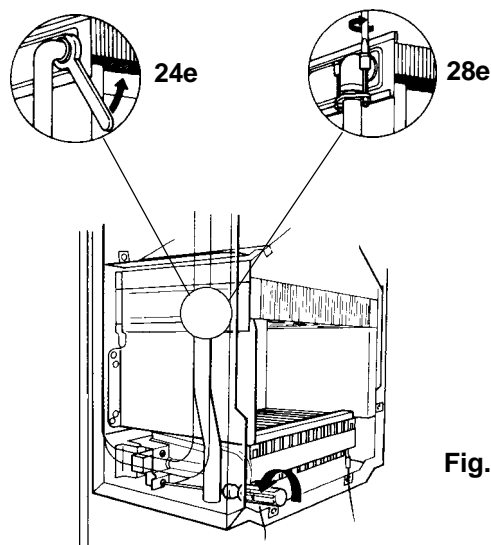

Fig. 28
- 8.6.4 Remove four burner retaining screws fig. 28 ease burner forward and rest on chamber base.
Refer to Fig. 28